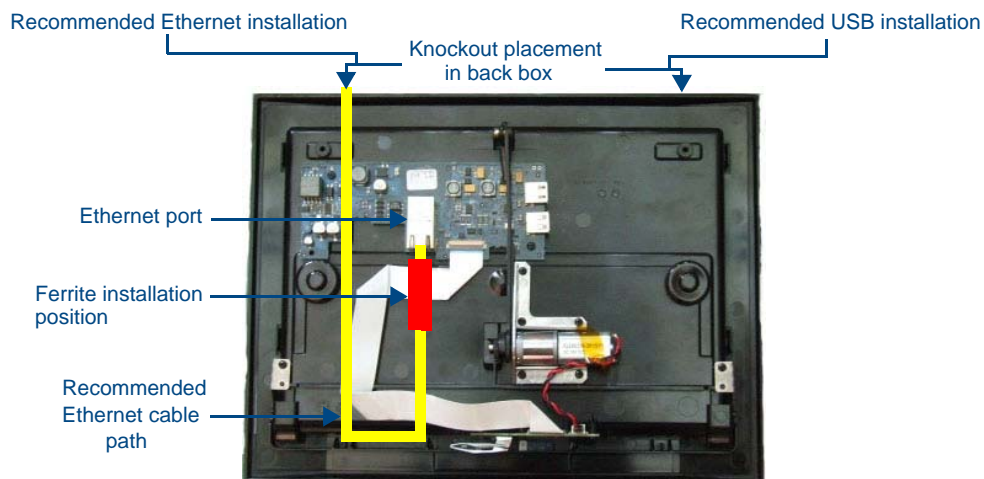

FIG. 16 MVP-WDS-9 - Ethernet cable path
7. Attach the included snap-on ferrite to the Ethernet cable, as close to the RJ-45 connector as possible. Attach the cable to the Ethernet Port (FIG. 16).